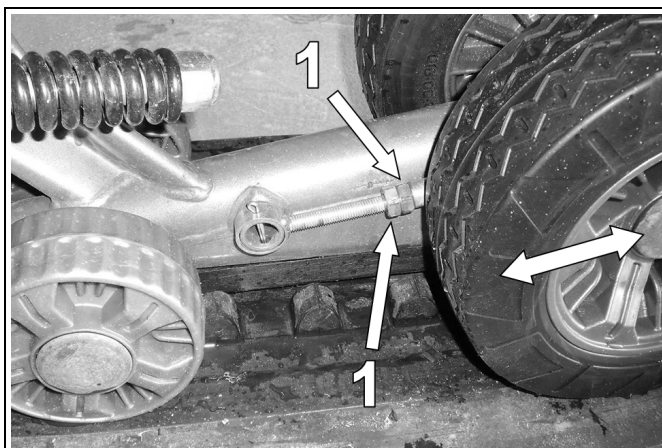

Figure 14
- Set rubber track tension to the minimum (refer to Figure 14).